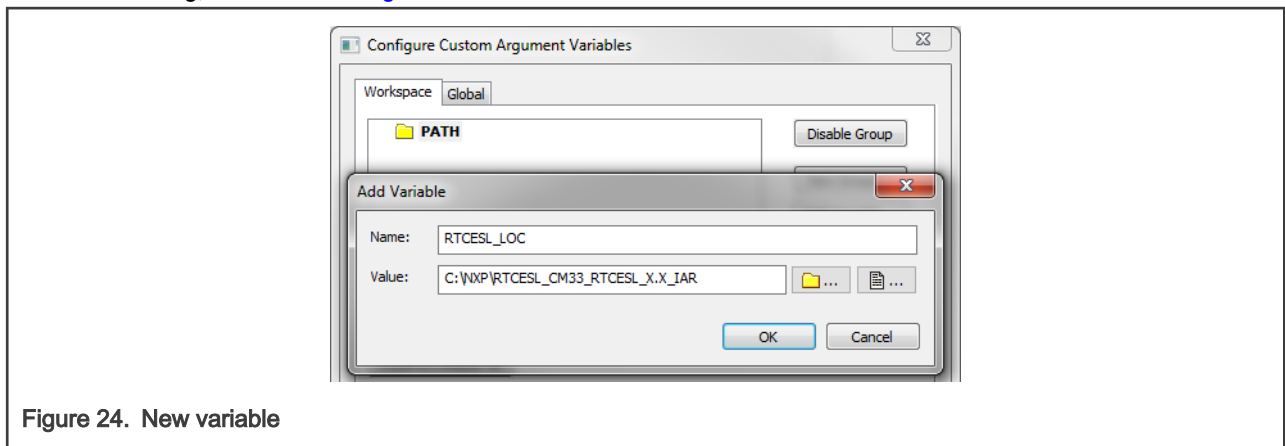

Figure 24. New variable
6. In the main dialog, click OK. See Figure 24.